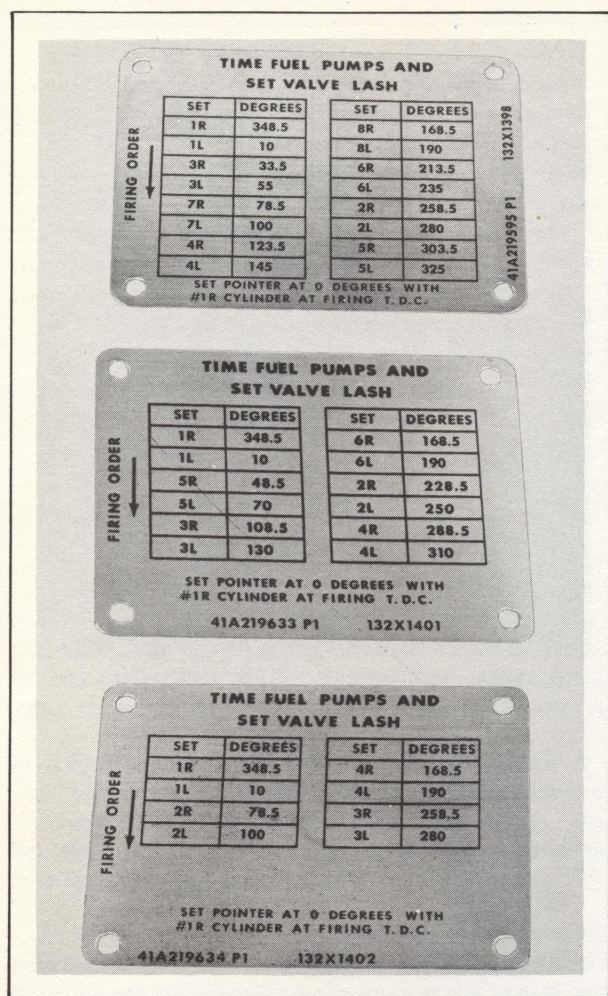

FIG. IX-45. TIMING NAMEPLATES FOR 8, 12 AND 16-CYLINDER ENGINES.
- Refer to the timing nameplate, Fig. IX-45, and following the timing order given on the nameplate, bar the engine to the degree value for timing the 1-L fuel pump. Time the 1-L pump by performing Steps 5, 6 and 7 above.
- Properly position the piston in the cylinder. Remove the timing-window cover and the barring-over cover from the governor drive, Fig. IX-41. Move the barring-over gear inward into engagement with the camshaft gear, then apply either a 1-in. ratchet wrench, Fig. IX-43, or an air-operated wrench, Fig. IX-44, to the barring-over gear. Bar-over the engine to rotate the camshaft until the correct timing (degree) mark for the cylinder being worked on, as specified on the timing nameplate, Fig. IX-45, is exactly aligned with the pointer, Fig. IX-40. Check that both inlet and exhaust valves are closed, indicating that the piston is on the compression stroke.